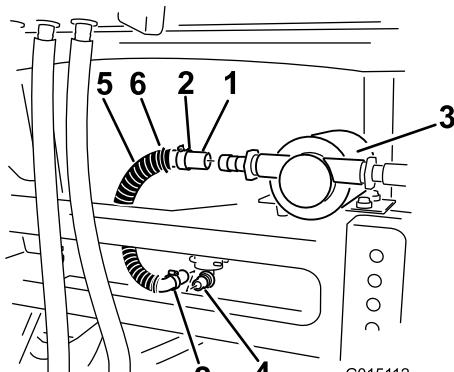

Figure 26
3. Install one end of the hose to the 90-degree fitting at the bottom of the rinse tank (Figure 26).
7. Locate the rinse pump cover in loose parts, and install it over the pump (Figure 26).